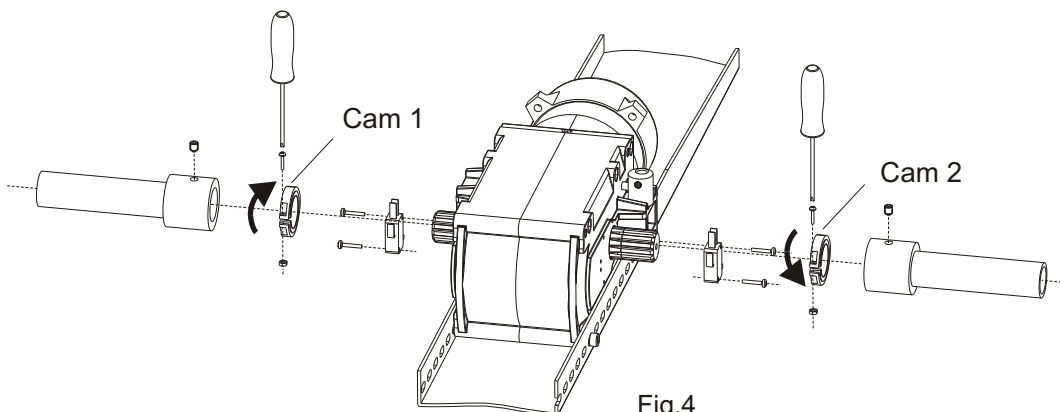

Fig.4
- Assemble the limit switch kit as in Fig. 4
- 3 Turn cam 1 as in Fig.4 until the microswitch is crushed
- 4 Fix the cam to the shaft screwing the provided screw (Fig.4)
- 6 Turn cam 2 as in Fig.4 until the microswitch is crushed
- 7 Fix the cam to the shaft screwing the provided screw (Fig.4)